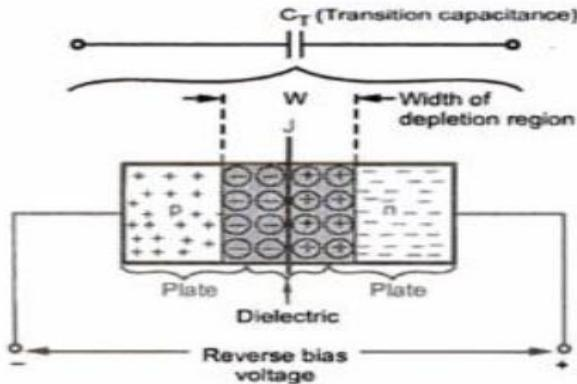

Fig. 1.15 Transition Capacitance
- It is denoted as  $C_T$  and is shown in figure 1.15.